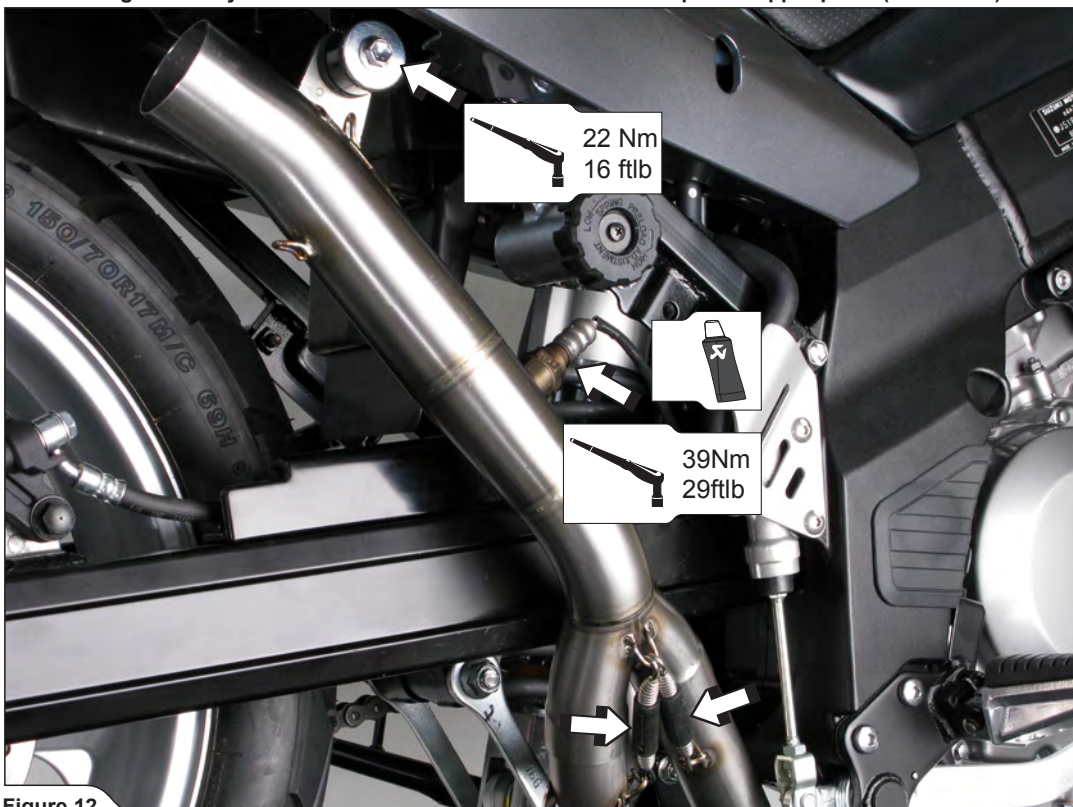

Figure 12
- Slide the link pipe onto the front pipes and attach the springs. Tighten the lambda sensor and link pipe's bracket onto the subframe, using stock bolt, washers and nut (Figure 12).